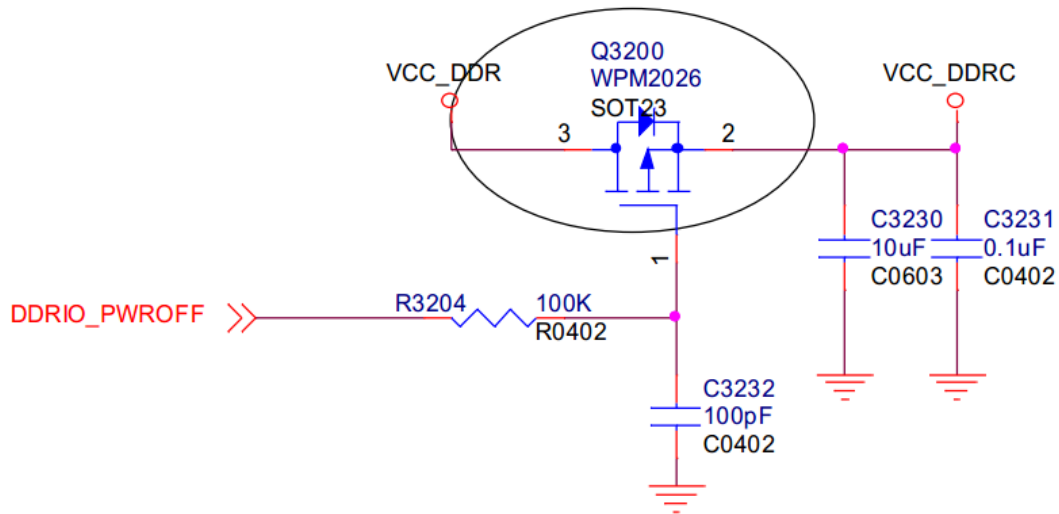

Figure 8-7
- VCC_DDRC power supply is controlled by NMOS Q3200, and turning off the VDDQ power supply to reduce system power dissipation, shown as Figure 8-7. In
Nand Flash and eMMC Flash can achieve the material exchange through double Layout, which is shown as Figure 8-7. When coppering below eMMC, the part of pad needs to add one area with cutting out copper to avoid the nonuniform distribution of copper foil to influence heat dissipation and resulting in pseudo soldering.